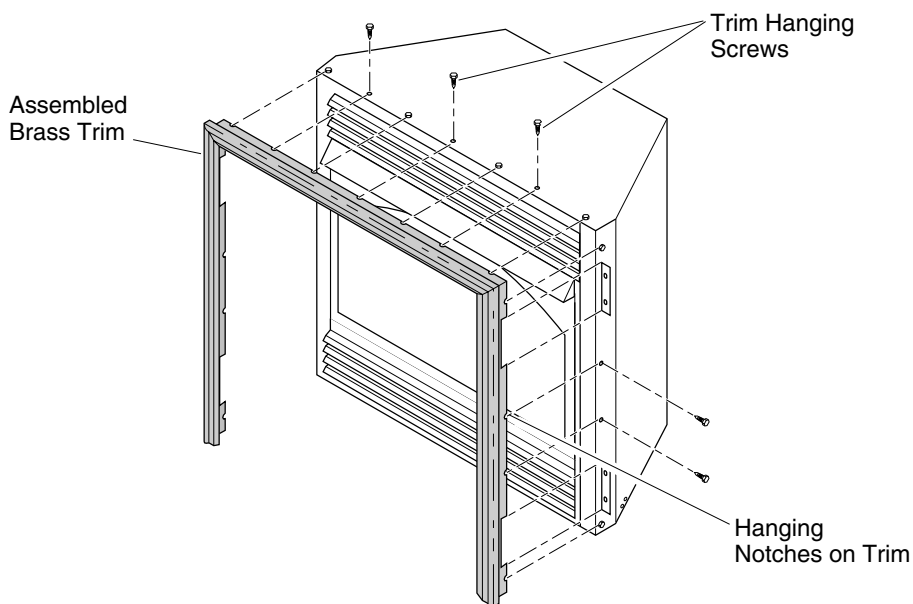

Figure 7 - Attaching Brass Trim to Fireplace
8. Tighten trim hanging screws (#10 x 6.25 shoulder) into holes in cabinets. Place the assembled trim onto fireplace cabinet. Align hanging notches on trim with hanging screws on side of fireplace (see Figure 7). Push trim firmly into place, sliding hanging notches over hanging screws.
10. Install brass trim after final finishing and/or painting of wall (see Figure 7, page 10).